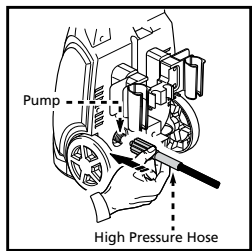

Fig. 5
- Screw the high pressure hose (clockwise) on the back of the unit at the bottom (Fig. 5). The end of the hose must be inserted into the water outlet far enough so the collar can thread onto the outlet threads until hand tight. Do not use pliers or vice grips to tighten. If it takes fewer than six or so turns you have not properly tightened the high pressure hose fitting. It is easier to position the power washer in front of you so to ensure that the threads are started correctly. Failure to properly tighten the high pressure hose will result in the hose slipping or popping off immediately upon turning the unit on. Do not worry about damage if this occurs - just reinstall and take extra care at screwing on the high pressure hose fitting.